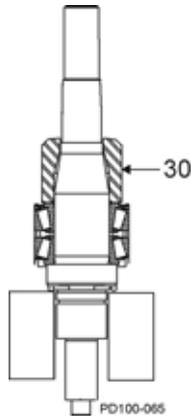

Figure 82 - Install Bearing Spacer
- Install the bearing spacer (Figure 82, item 30).